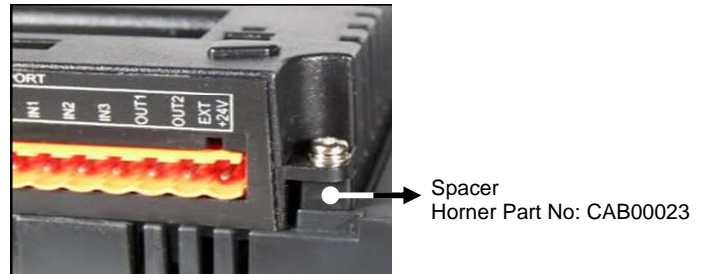

Figure 1 – BP Rev G Spacer Installation
4. If installing BP Rev G and beyond use spacer CAB000023 as shown in the Figure 1 for the screw closest to the BP connector